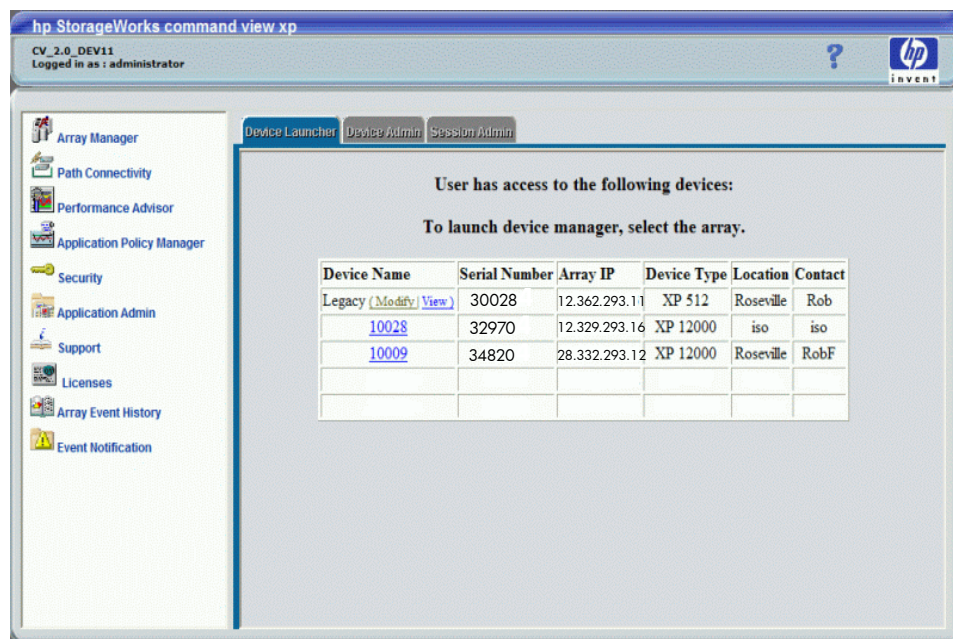

Figure 3: Command View Main Window
3. After the user name and password are verified, the Command View main window is displayed (see Figure 3).